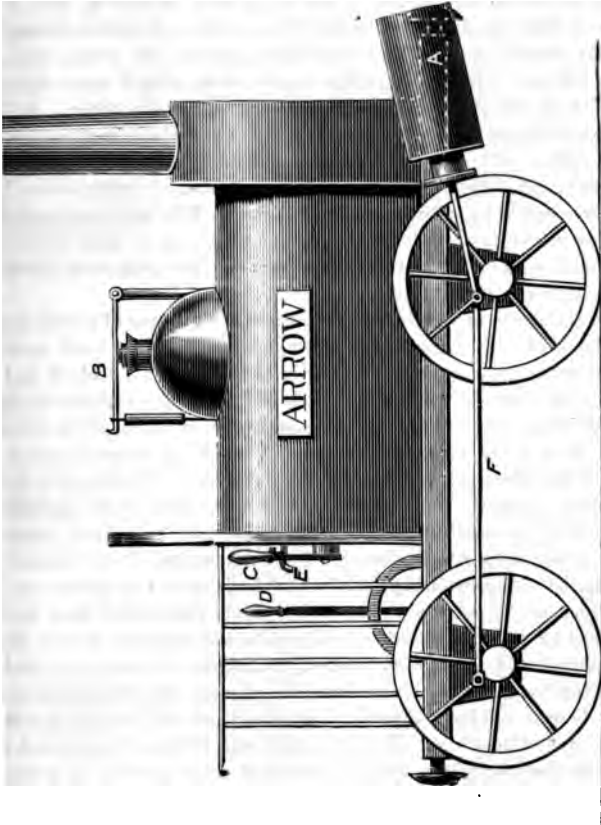
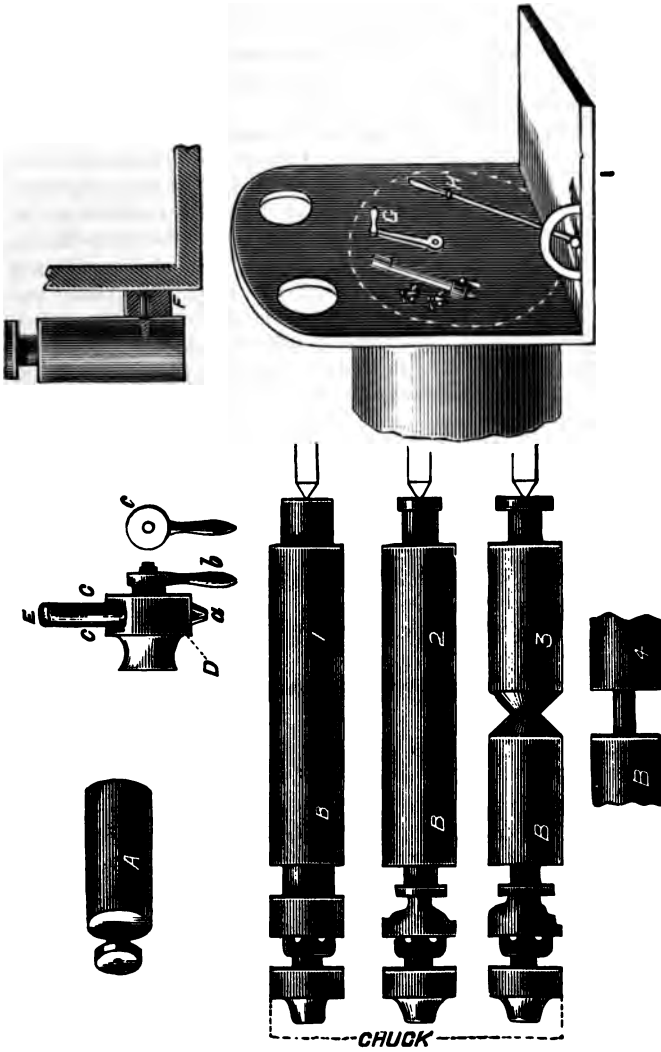

FIG. 40.—LOCOMOTIVE ENGINE, WITH OSCILLATING CYLINDERS.
FIG. 41.—SECTIONAL PARTS OF LOCOMOTIVE ENGINE.
Fig. 40 represents the complete engine, to which a few additional parts have been added besides the cylinder. B is an imitation safety valve; C, the starting lever; D, the reversing lever; E, gauge cocks. The wheels are also linked together by side or coupling rods (F) giving another source of motion, because the more visible the movement of its parts the more like a real engine will the toy be. In Fig. 41, p. 97, the cylinder is represented by A. It is about $1\frac{1}{2}$ in. long by $\frac{3}{4}$ in. diameter, but may be larger or smaller, according to the size of the complete model. At one end is an imitation gland or stuffing box, through the centre of which the piston-rod moves. These cylinders, being solid, are easy to turn. Put a bit of deal or beech of suitable size on a prong chuck, and use the back centre to keep it in place. Place the rest nearly close—the top of the T a little below the line of centres—rough down with the gouge, and finish with the chisel, producing in the first place merely a plain smooth cylinder. Then turn down the small part to imitate the gland, making it on the right-hand end of the cylinder next to the back poppet. Turn it down merely to a smaller size in the first place, using the chisel to face up the end nicely. Then cut out a notch, and with the chisel angle work it right and left to widen it, finishing with a very narrow chisel or parting tool, and smoothing with a bit of glass cloth folded sharply, or with a small file. Lastly, cut it off at the chuck end. To do this neatly use the sharp angle of the chisel, and cut a deep notch. Continue to widen this, keeping the cylinder end upright and true as you deepen the cut, and sloping the other to give you plenty of room to work the chisel.